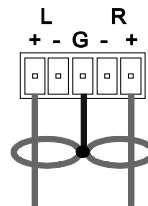

Figure 4: Connecting an Unbalanced Stereo Audio Output
- An unbalanced stereo audio output connection, see Figure 4